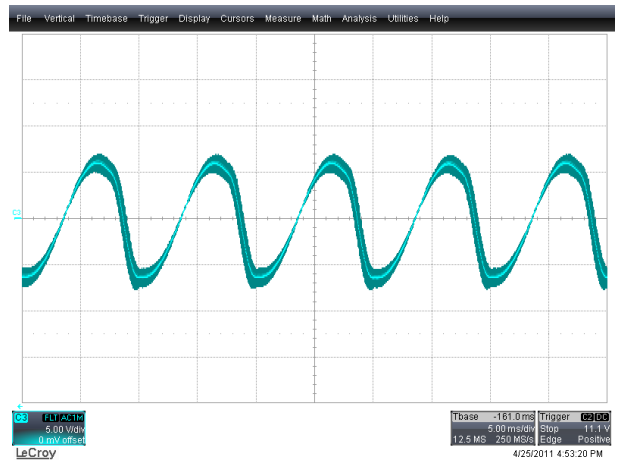

Figure 47 – Ripple, 264 VAC, 100% Load.
- The PFC stage was supplied from an adjustable DC source for this test. Connect the circuit as shown in Figure 47. Open the top end of the feedback divider network and insert a $100\ \Omega$, 2 W resistor in series as shown. The signal injected in the loop for gain-phase measurement will be injected across this resistor.